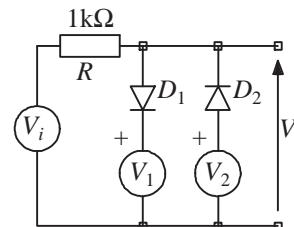
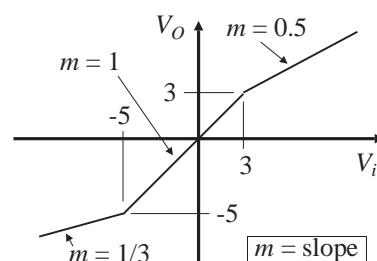

Figure 3
Figure 5
- Q3** In the circuit of figure 3, V_i is a triangular wave of 10V peak whose frequency is to be measured by a system that requires its input signals to lie within the range 0V to 3.3V if damage to the system is to be avoided. Assuming the diodes have forward bias voltage drops of 0.7V, choose values for V_1 and V_2 that will clip those parts of the triangular V_i that are higher in voltage than 3.3V and lower in voltage than 0V.
- Q5** Design a soft clipping circuit that will realise the $V_O - V_i$ characteristic of figure 5 using diodes that have a turn on voltage of 0.7V. (Base your design on the circuit of figure 3; keep the 1kΩ resistor, add a series resistor into each of the diode arms and work out suitable values for V_1 , V_2 and the two series resistors.)